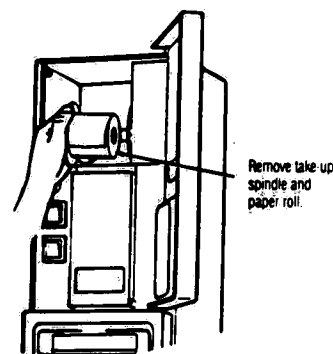

FIGURE 4-6 – Take-Up Spindle Removal
4. Remove paper roll from take-up spindle and set empty take-up spindle aside (Figure 4-6).